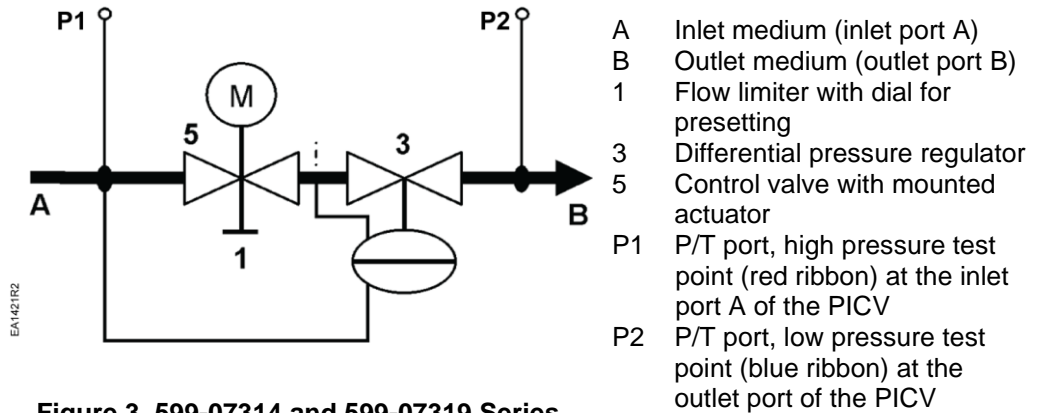
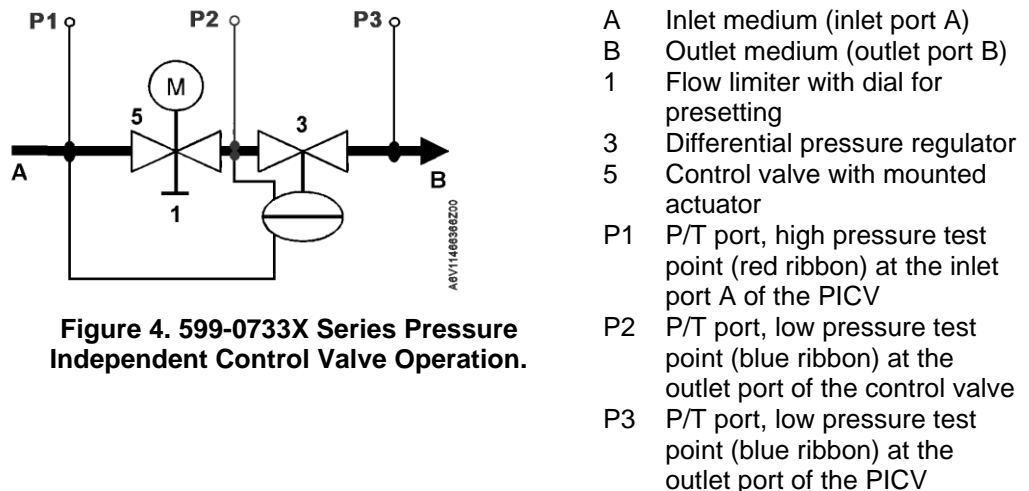

Figure 3. 599-07314 and 599-07319 Series Pressure Independent Control Valve Operation.
Figure 4. 599-0733X Series Pressure Independent Control Valve Operation.
The 599-07314 and 599-07319 Series PICV are equipped with two pressure test points (P1, P2) for measuring the differential pressure across the valve during commissioning or operation. See Figure 3.
The 599-0733X Series PICV are equipped with three pressure test points (P1, P2, P3) for measuring and monitoring the differential pressure across the control valve and across the PICV during commissioning or for analysis during operation. See Figure 4.
The Pressure Independent Control Valves combine three functions (see Figure 3):
The medium entering the Pressure Independent Control Valve (inlet port A) first passes through the variable presetting opening (see Figure 1 and Figure 2) which is connected to the ring with a dial (1) for presetting the desired maximum volumetric flow. The actuator (M in Figure 3 and Figure 4) opens and accurately positions the control valve. Then, the medium flows through control valve (5) with a linear characteristic.